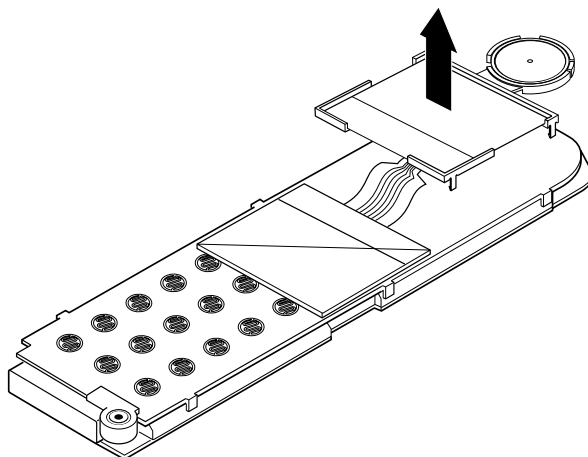

Figure 13: LCD/earpiece holder removal
13. (Figure 13) Gently bend the lugs on the LCD/earpiece holder outwards and lift from the logic PCB.